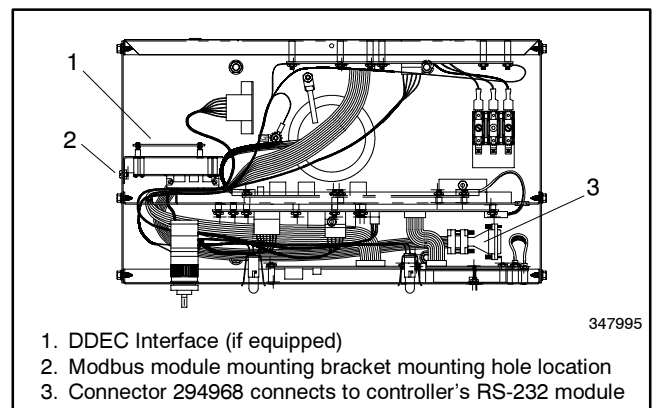

Figure 2-8 Top Controller View, Modbus Module Installed
7. Attach the Modbus module mounting bracket to the side of the controller using the two #4-40 x 0.500 in. slotted pan head machine screws, X-51-38. See Figure 2-8.
10. Connect the 9-pin to 25-pin connector 294968 between the loose mating end of the ribbon cable assembly and the RS-232 communication module installed on lower right of the inside of the controller's front panel. See Figure 2-8.